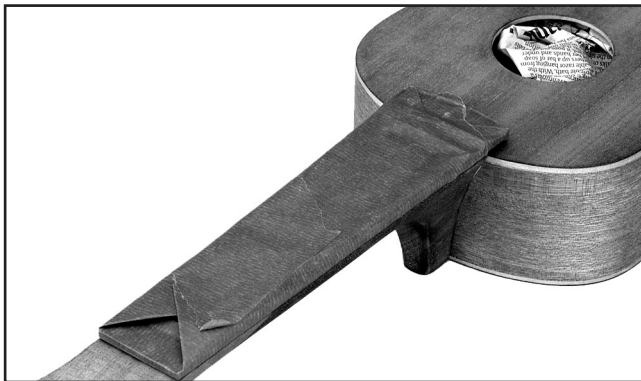

Figure 29. Example of a masked fingerboard and stuffed sound hole.
- Mask the fingerboard and nut location, (see **Figure 29**).
- Fill the sound hole with newspaper, (see **Figure 29**).